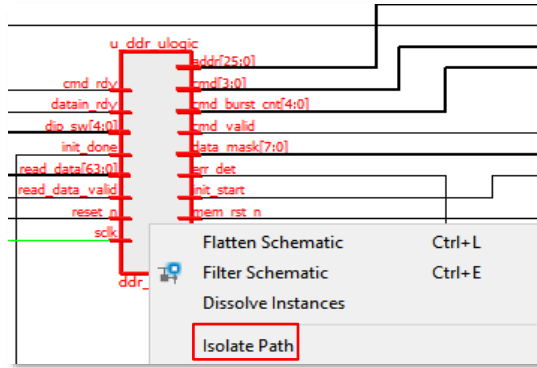

Figure 3.6. Click on Isolate Path of Interested Module
2. In the schematic view, right-click and choose **Isolate Path** as shown in Figure 3.6.